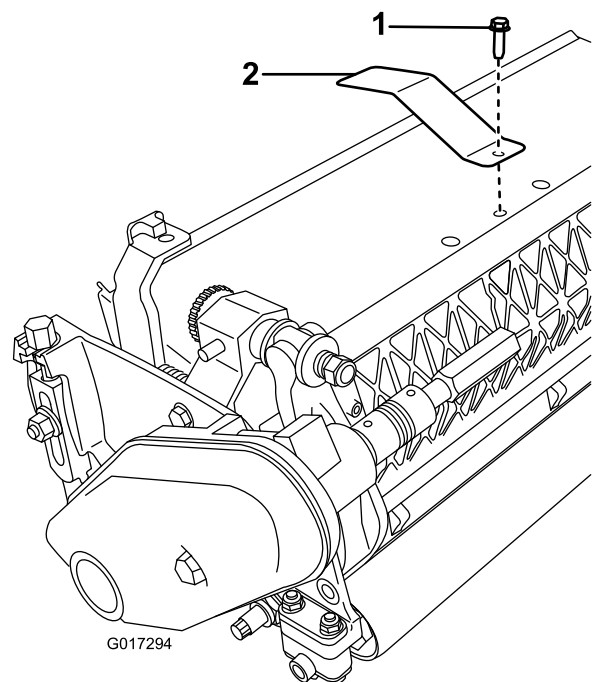

Figure 4
1. Remove the center, grass-shield bolt (Figure 4).
2. Install the target plate to the top of the cutting unit using the bolt that you removed previously (Figure 4).